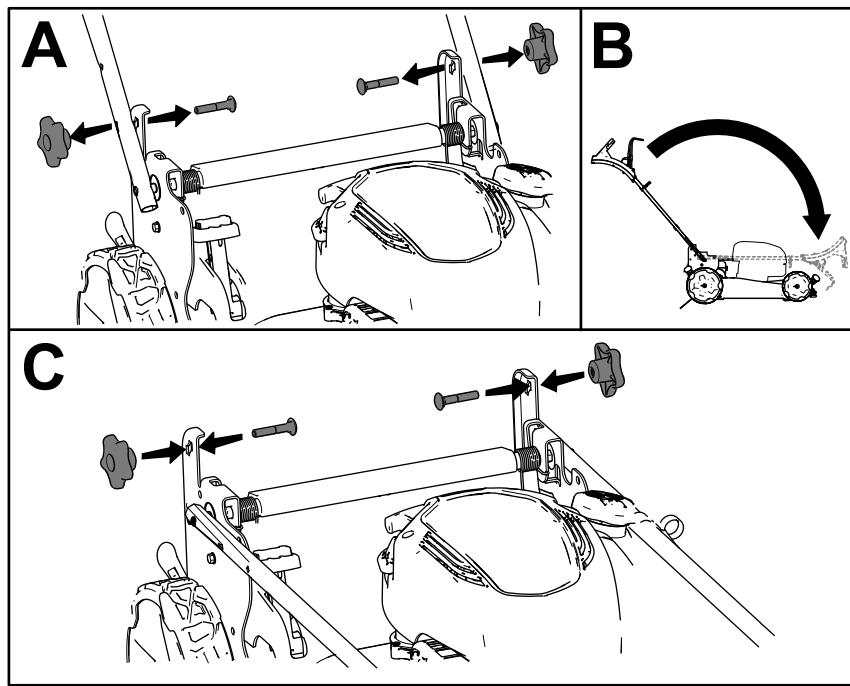

Figure 18
1. Remove and save the 2 handle knobs and 2 carriage bolts from the handle brackets (A of Figure 18).
2. Fold the handle by rotating it forward (B of Figure 18).
3. Loosely install the handle knobs and carriage bolts on the handle brackets (C of Figure 18).